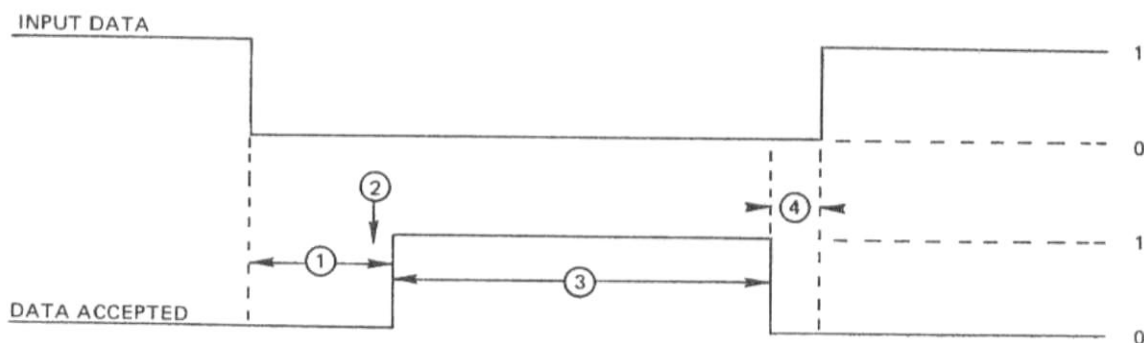

Figure 07-1. Data Entry Timing
Figure 07-1 shows the data entry timing sequence. The input data line debounce time (1) is typically 16 to 18 ms. Data is latched into the counter 48  $\mu$ s before the data accept line goes high (2). As soon as the data accept line goes high, all data (except remote enable) can be removed. The data accept line stays high while the counter processes the input data. This process is data dependent, and can take from 1 to 140 ms (3). To prevent the counter from setting the poll mode, the input data line must go high within 100  $\mu$ s after the data accept line goes low (4). If poll mode is set, the next data read cycle will occur between 0 and 100 ms after the high to low transition of the data accept line. After this first data read cycle, all subsequent data read cycles will occur at 100 ms intervals.